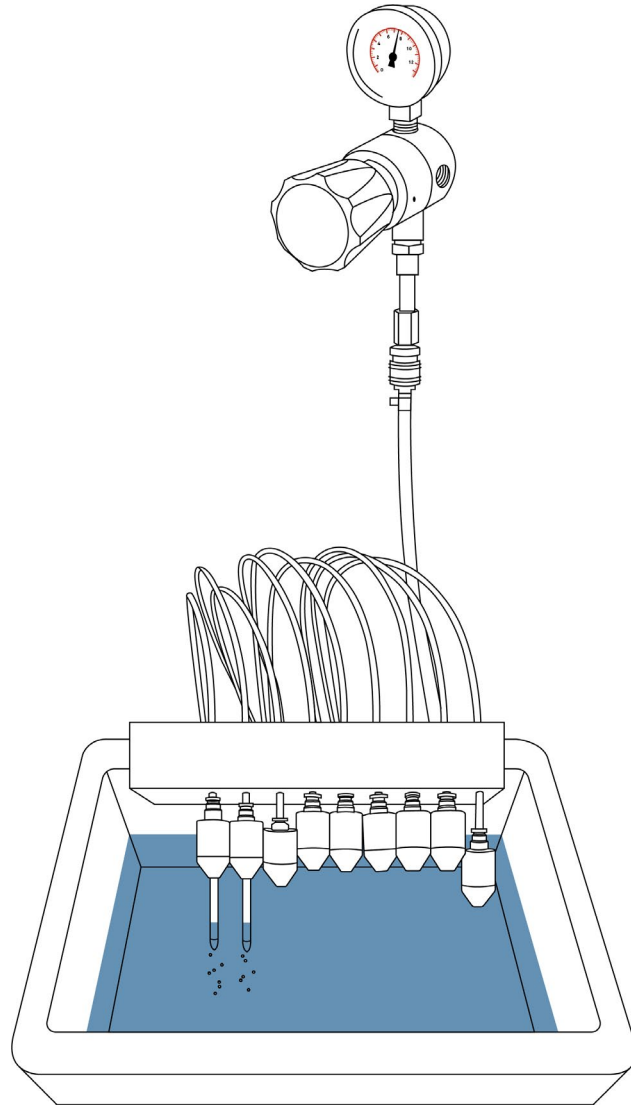

Figure 3. Air bubbles coming out of ceramic tips
5. Set the timer to two minutes. After two minutes, use the magnifying glass to check if there are any air bubbles coming out of the ceramic (Figure 3).